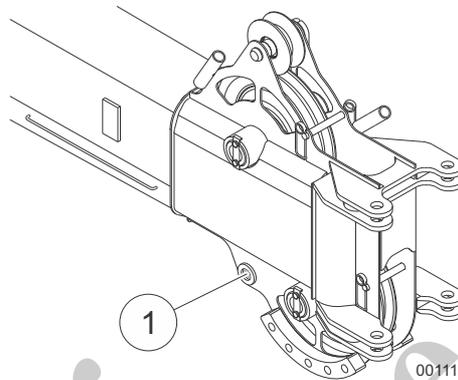

Fig. 206 Attaching a rope for pulling the fly boom around
9 Attach a rope to the eye (1) in Fig. 206 on the fly boom.